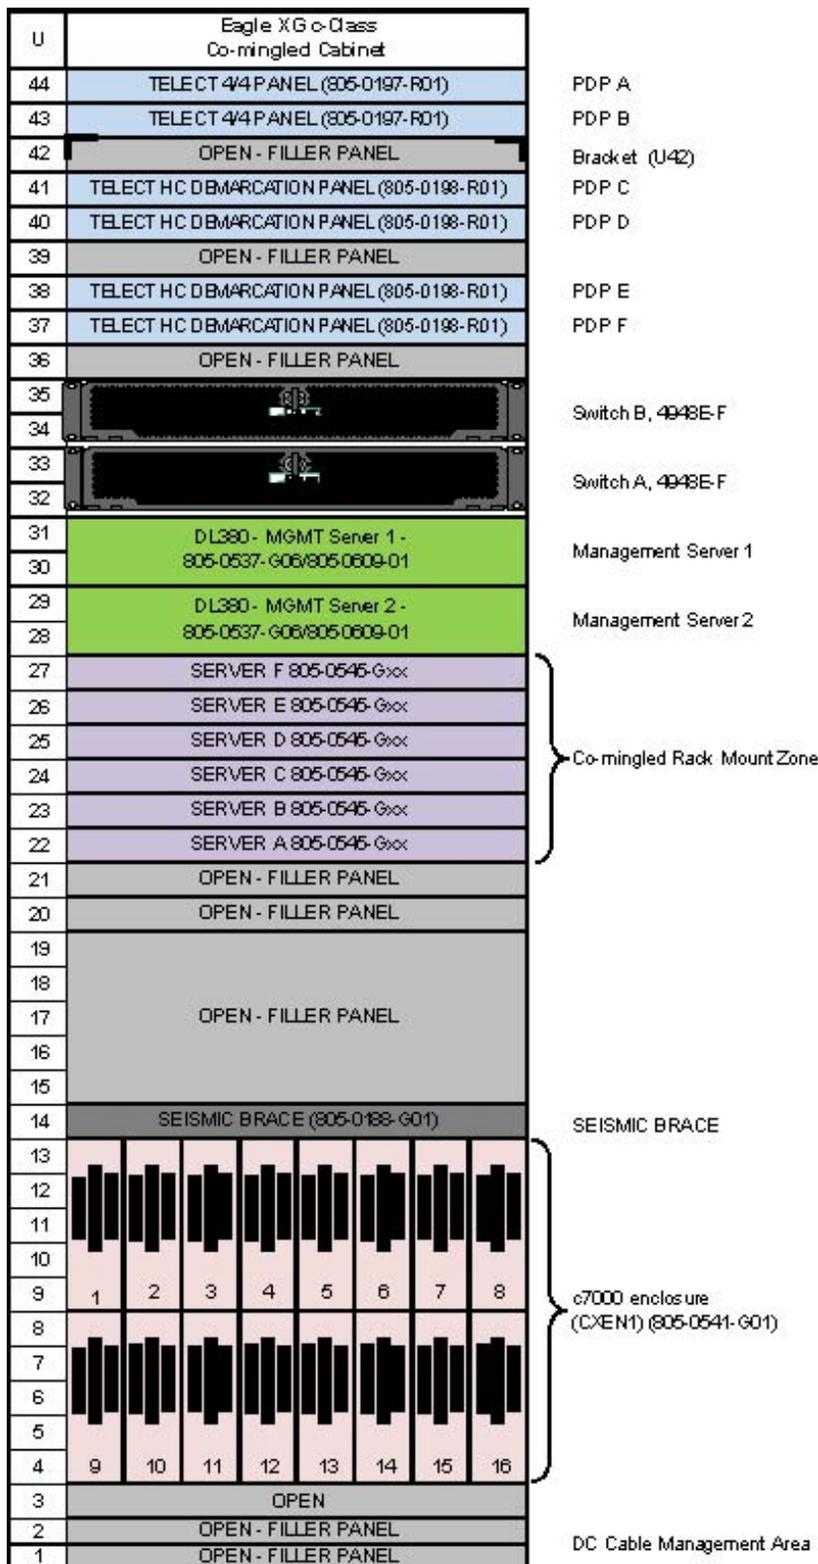

Figure 4: Example of a DC Co-Mingled cabinet with Cisco 4948E-F
- *Figure 4: Example of a DC Co-Mingled cabinet with Cisco 4948E-F*